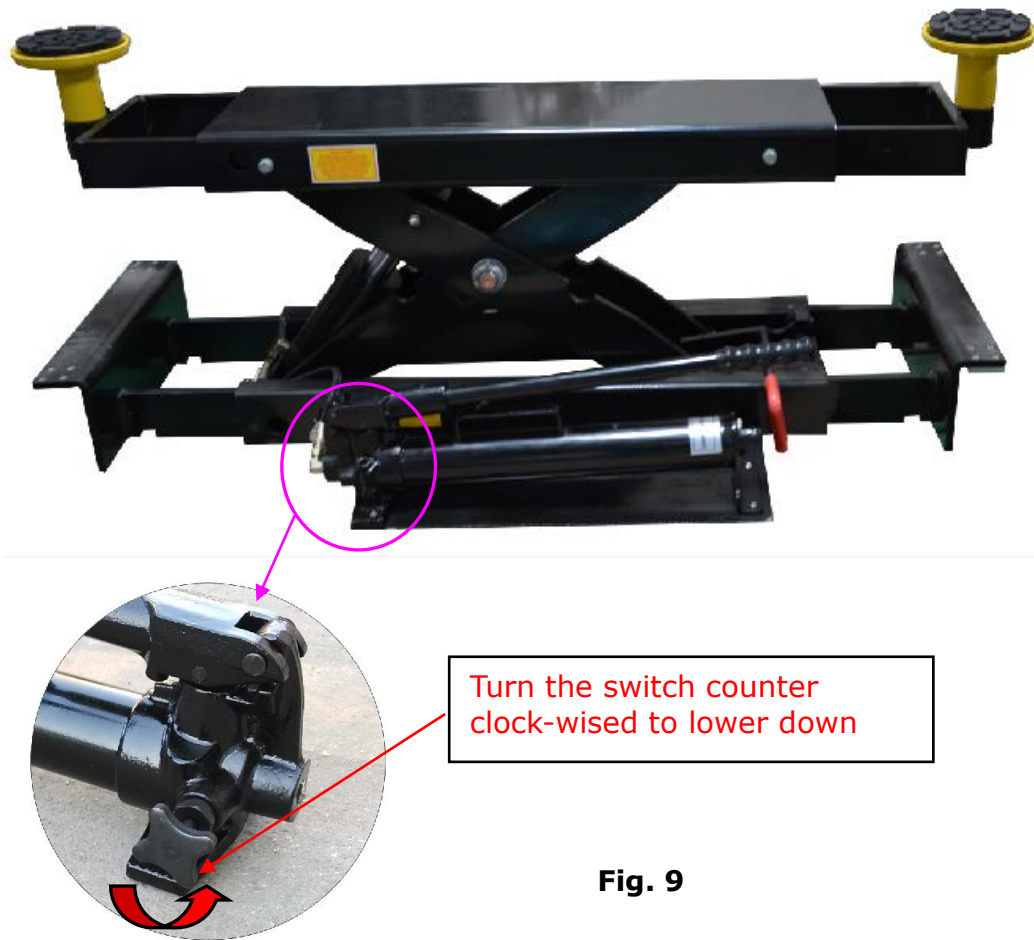

Fig. 9
- ③ Turn the switch to lower the jack (Fig 9)